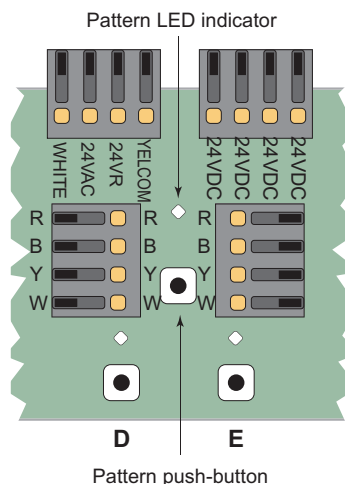

Figure 6 – Smartwiring a Dataline Switch
1. Press the SMARTWIRE tab as shown in **Figure 6**.
Smartwiring a Dataline Switch in Patterns mode is similar to the procedure described in **Figure 6**, with one additional step: